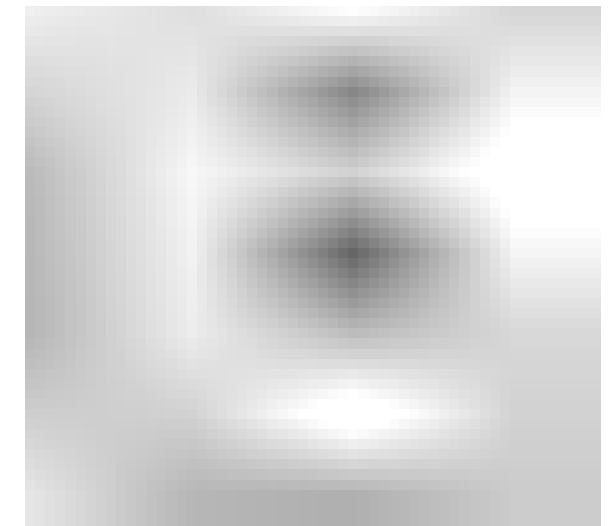

Figure 6.3
Step3: Click the "Boundary Engraving Range" button (Figure 6.3), the laser device of the engraving machine will automatically turn on the shimmer and look for the edge according to the set pattern engraving size.